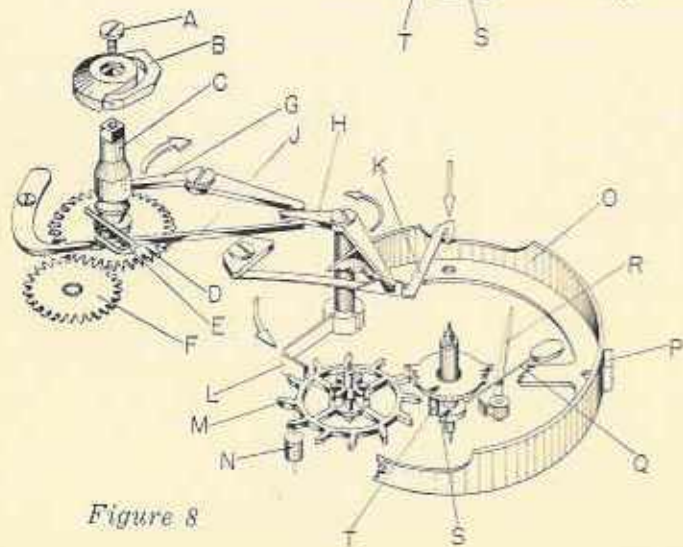

Figure 8
In Figure 8, the alternate sequence is shown. A is the arbor and the key screw. Notice that the key and button are streamlined and fit into a recess in the case back; there is no crown on the edge of the watch case and in this respect is similar to Accutron's setting mechanism. The case back presents a smooth, streamlined surface when the watch is in the running position. In this figure the arbor has been pulled upward by the hinged key. The front edge of this key (B) is undercut to allow a fingernail to swivel the key into an upright position. The arbor (C) is now shown pulled up so that the setting wheel (D) is engaged with the minute wheel (F). The bolt spring (E) has locked itself in the lower groove of the knuckle and positioned the arbor